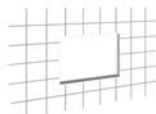

Figure 4
1. Measure the dimensions of the back box and make a cut-out in the wall accordingly (figure 4)